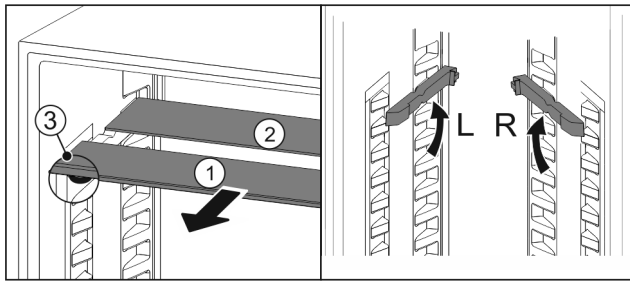

Fig. 90
- ▶ Pull the glass panels out Fig. 90 (1) from the front, one at a time.
- ▷ The glass panel Fig. 90 (1) and trim strip are at the front.
- ▷ The stops Fig. 90 (3) point down.